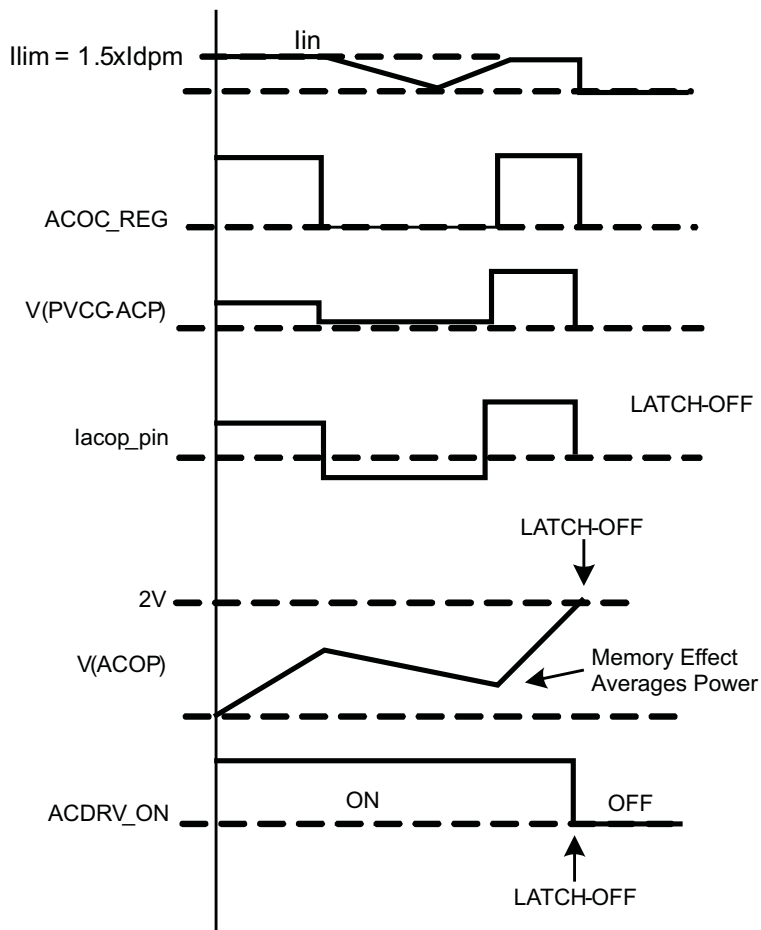

Figure 35. ACOC Protection and ACOP Latch Off with Memory Effect Example
- Memory effect (capacitor charging and discharging) allows protection from repetitive ACOC conditions, depending on duration and frequency. (Figure 35)